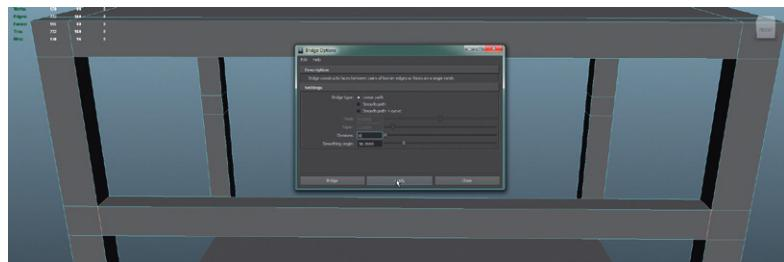

FIG 3.57 Bridging together two faces.
Step 13: Connect the legs with the Bridge Tool. Choose Polygons>Edit Mesh > Bridge (Options). In the Bridge Options window, change the Divisions setting to 0. Click the Bridge button (Fig. 3.57).